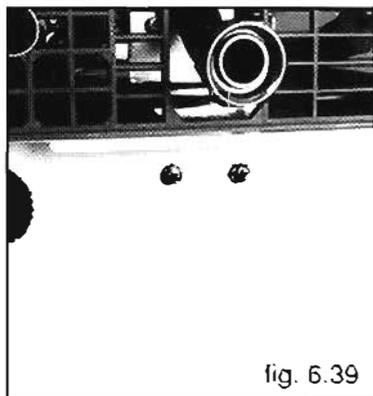

fig. 6.39
**NOTE:** When you are replacing the nozzles to convert the appliance for use with a different type of gas, remember to replace the existing data plate (at the bottom of the frame) with the plate supplied in the modification kit (see fig. 6.39).